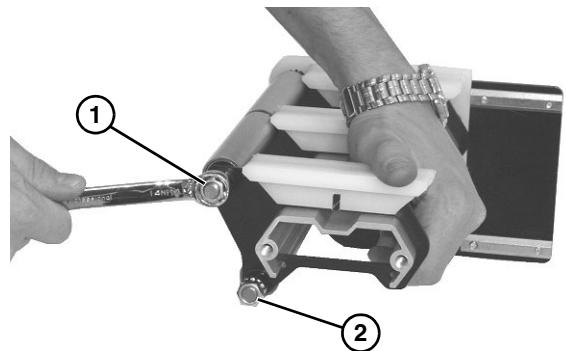

Figure 58
5. Remove upper nut (**Figure 58, item 1**) and spacer from end of axle shaft assembly.
6. Remove lower nut (**Figure 58, item 2**) and spacer from lower axle shaft assembly.